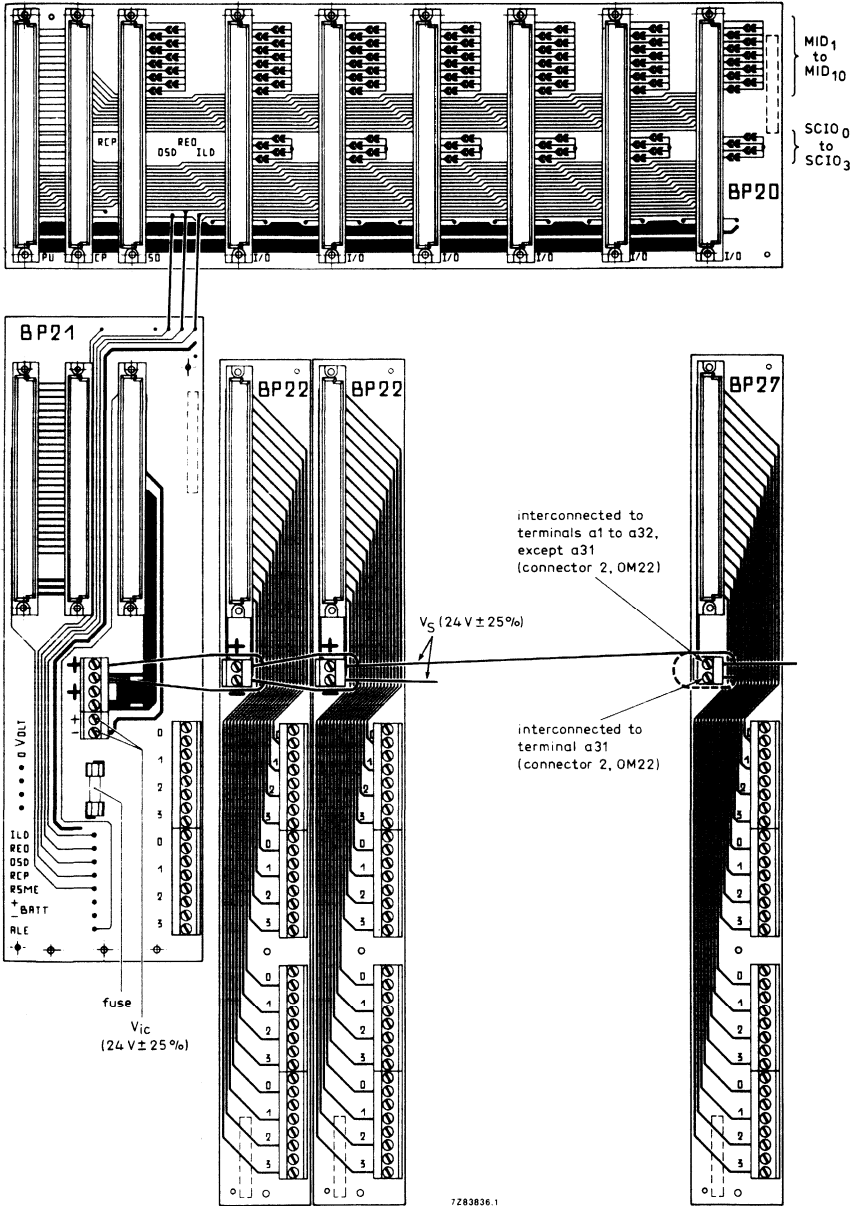

Fig. 2 Back panel arrangement. See also note at the top of the next page.
Control signals can be connected to the connecting points on the lower end of back panel BP21 (see Fig. 2). The functions of the control signals are indicated in the table below.
Note: Use of control signals $\overline{\text{ILD}}$, $\overline{\text{REO}}$ and $\overline{\text{OSD}}$ requires interconnections between back panels BP20 and BP21 (see Fig. 2).
Note to Fig. 2 on the preceding page: If all outputs of the OM22 are used in grounded load configuration, an interconnection between the two connecting points of the small connecting block of back panel BP27 has to be used (indicated with a dashed line). This interconnection has not to be made if the first 16 output stages of the OM22 are used with pull-down resistors, e.g. to drive TTL circuitry. See also data sheet OM22.
Each group of four inputs and outputs of an input/output module has a discrete address in the scratch-pad memory of the central processor. This address is allocated by bridging the appropriate MID-pads (MID₁ to MID₁₀) on back panel BP20, see Fig. 2.
The coding of inputs and outputs is done by bridging the appropriate SCIO-pads (SCIO₀ to SCIO₃) on back panel BP20, see Fig. 2.
- the output circuits of SO20 to be connected to the large connecting block on back panel BP21, see Fig. 2.
The supply voltage for the converter (V_{IC}) is $24\text{ V} \pm 25\%$. It should be connected to the terminals of the small connecting block on back panel BP21, see Fig. 2. A fuse ($I_n = 1,6\text{ A}$, delayed action) protects the supply against short-circuit in the converter.
The supply voltage for the output modules (V_S) is $24\text{ V} \pm 25\%$. It should be connected to the double connecting block on back panel BP21 and the small connecting block on the panel(s) BP22 and BP27 (only + connection), see Fig. 2.